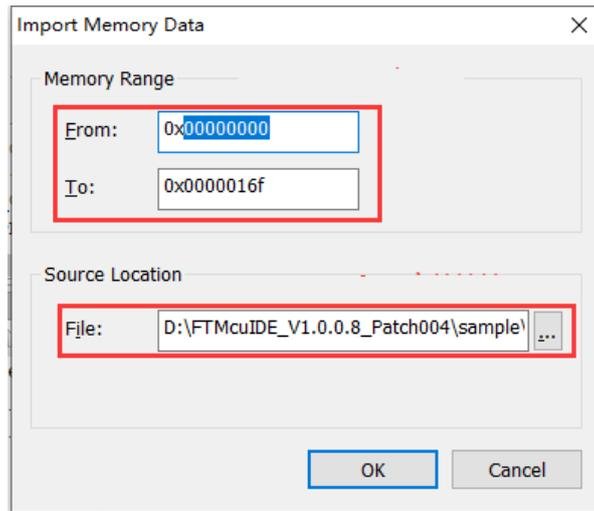

Figure 1-64
**Import Memory Data:** Import the memory data file, as shown in Figure 1-64. First, enter the start and end address of the imported memory space, then select the imported memory file, and click OK to import the memory file data into the set start and end address range.